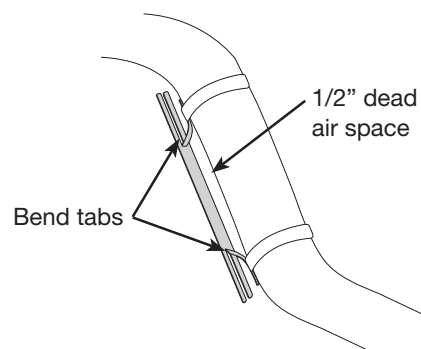

fig. 19
- Bend tabs to provide a dead air space between exhaust pipe and heat shield. (Fig. 19) Attach the heat shield to the exhaust pipe using the clamps. Bend the heat shield for maximum clearance to the air spring.
Some vehicles have large resonators in this area; it will be necessary to double up on the clamps to fit these models (Fig. 19).